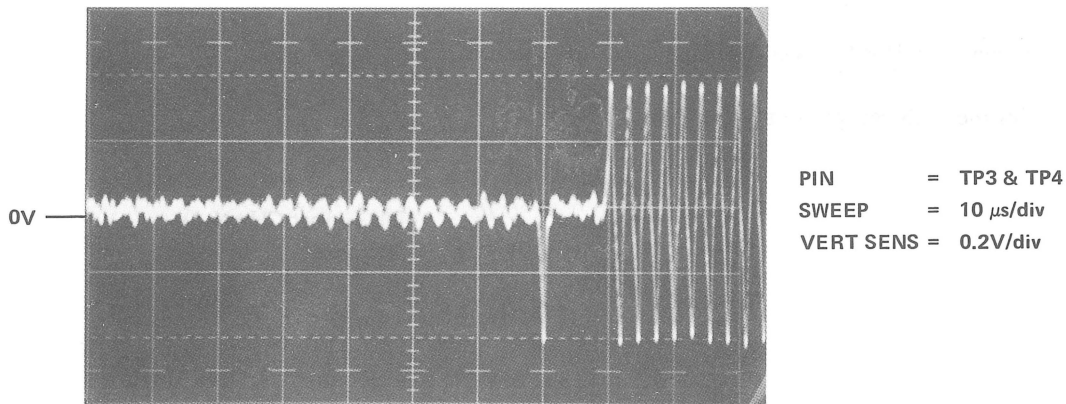

Figure 5-18 Index/Sector Waveform
11. Expand the sweep time to 10 μ s/div and check that the single pulse occurs 70 \pm 10 μ s from the start of the sweep (Figure 5-18).
- c. Observe the track scale and note the cylinder indication when the "right on" waveform (Figure 5-18) is obtained. If the scale indicates less than 105, the head is too far forward in the carriage. Conversely, if the scale indicates more than 105, the head is back too far in the carriage.